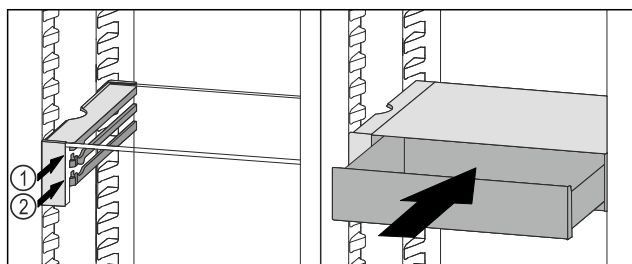

Fig. 130
- ▶ Place the VarioSafe drawer behind the stoppers on desired rib Fig. 130 (1) or Fig. 130 (2).